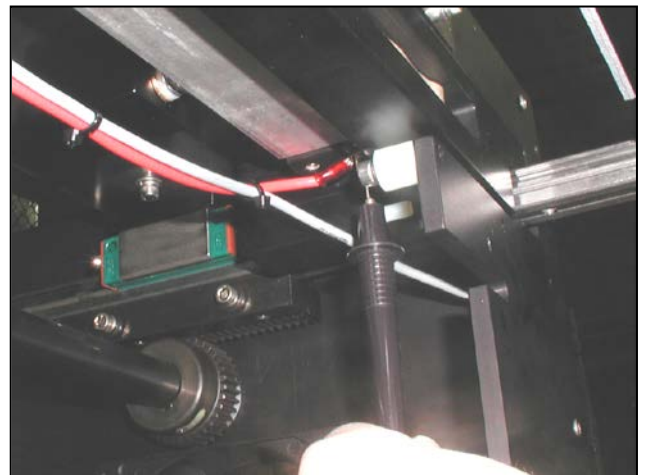

Figure 3-64. Probing right side of Seal Wire
4. With a DVOM set to test for continuity, contact one probe to the loose Red wire you just disconnected, and contact the other probe to the right screw holding the other Red wire to the Seal Wire (Figure 3-64).